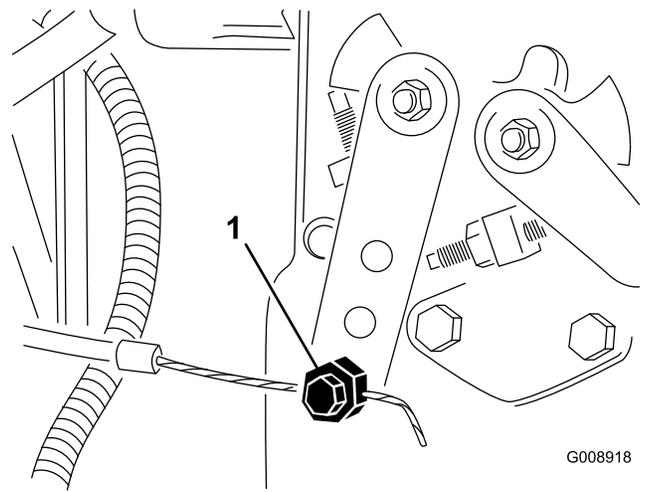

Figure 83
4. Loosen the throttle cable connector on the injection pump lever arm (Figure 83).